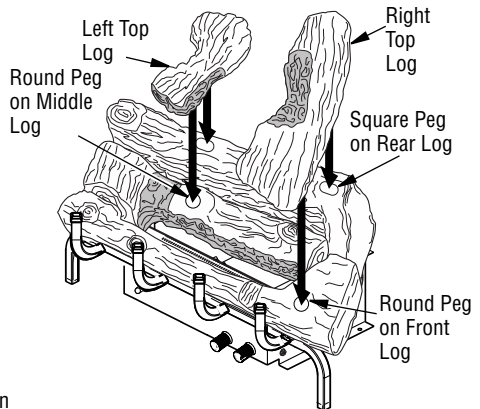

Figure 23 - Installing Left and Right Logs
4. Place left top log (#4) as shown in **Figure 23**. Match square peg on top of rear log (#1) with square hole on bottom of left top log (#4). Match round peg on top of middle log (#2) with round hole on bottom of left top log (#4).
5. Place right top log (#5) as shown in **Figure 23**. Match square peg on top of rear log (#1) with square hole on bottom of right top log (#5). Match round peg on top of front log (#3) with round hole on bottom of right top log (#5).